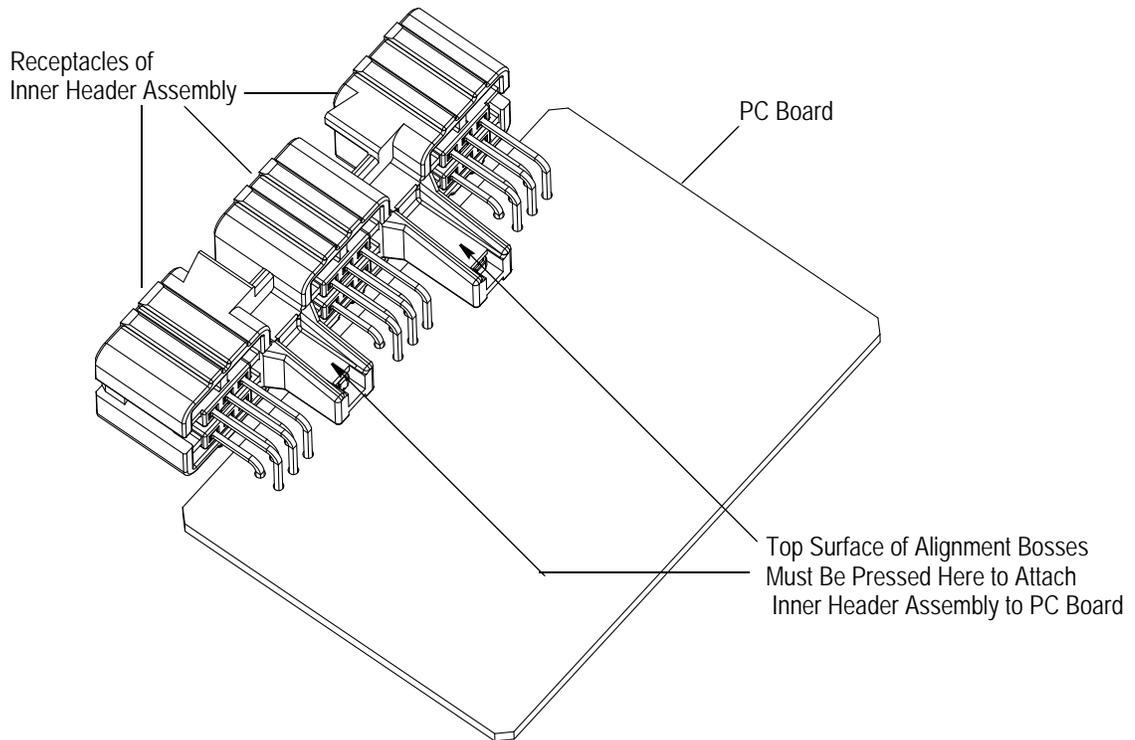

Figure 2
- Added Paragraph 3.4 and reference for Figure 2
The inner header assembly must be attached to the pc board by pressing the top surface of alignment bosses until the board locks are through the holes in the pc board. See Figure 2.